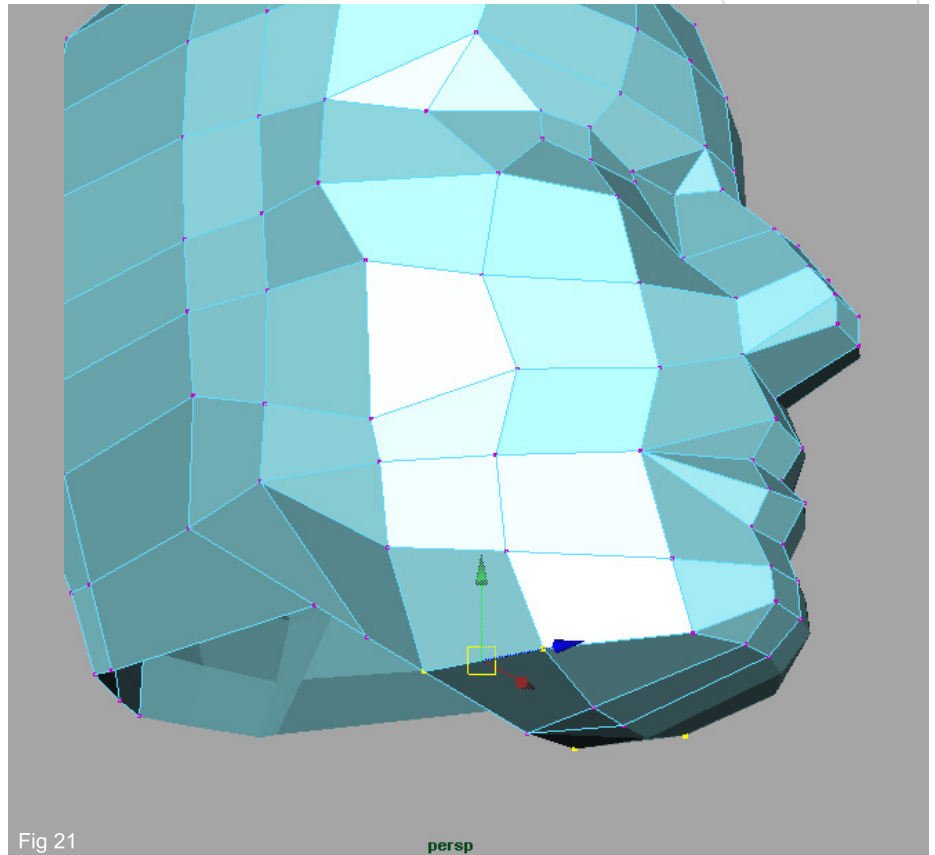

Fig 21
21. Merge together the highlighted vertices to reduce your poly count. (Fig 21)